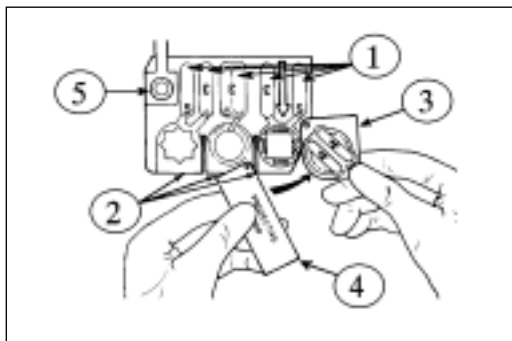

Fig 4-7. Sampler detector.
(2) The 12 sampler-detectors (fig 4-7) mentioned earlier consist of the following: